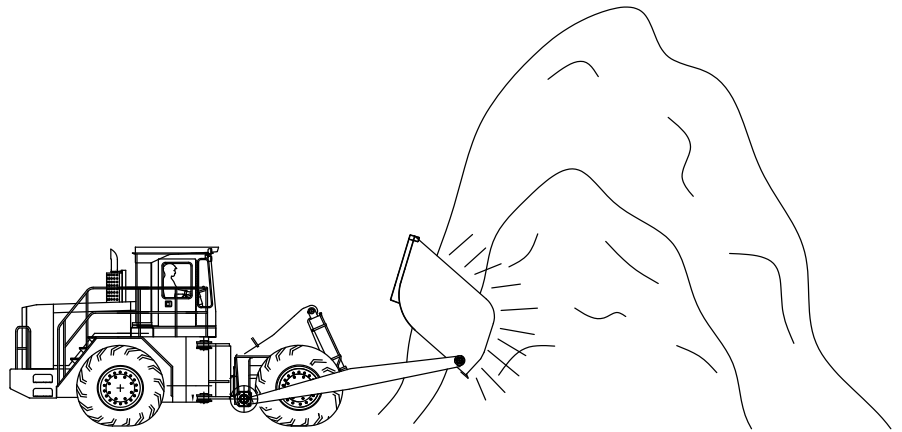

Fig. 5-10
1. If it becomes necessary to knock down an overhang, use the following procedure as shown in Fig. 5-10.